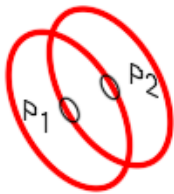

Figure Step 12A
Step 12 Enter the 3DARRAY command, as shown below, to complete the wireframe model of the gear. (Figure Step 12A and 12B)